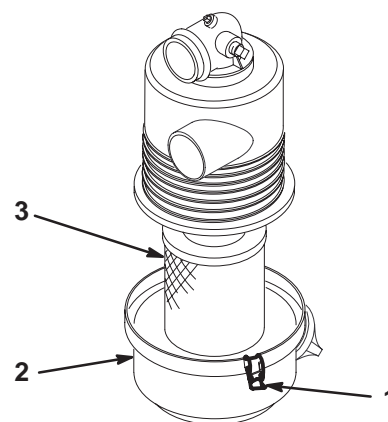

Figure 27
3. Release the latches securing the air cleaner cover to the air cleaner body. Separate the cover from the body. Clean the inside of the air cleaner cover (Fig. 27).
4. Gently slide the filter out of the air cleaner body to reduce the amount of dust dislodged (Fig. 27). Avoid knocking the filter against the air cleaner body.